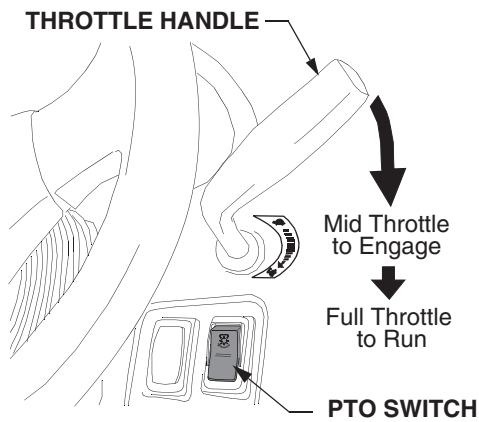

Figure 20
- Move the throttle handle to the mid throttle position. Refer to Figure 20.
- Push the *top* of the PTO switch downward to engage the PTO (Refer to Figure 20). The PTO light on the instrument panel will come on.